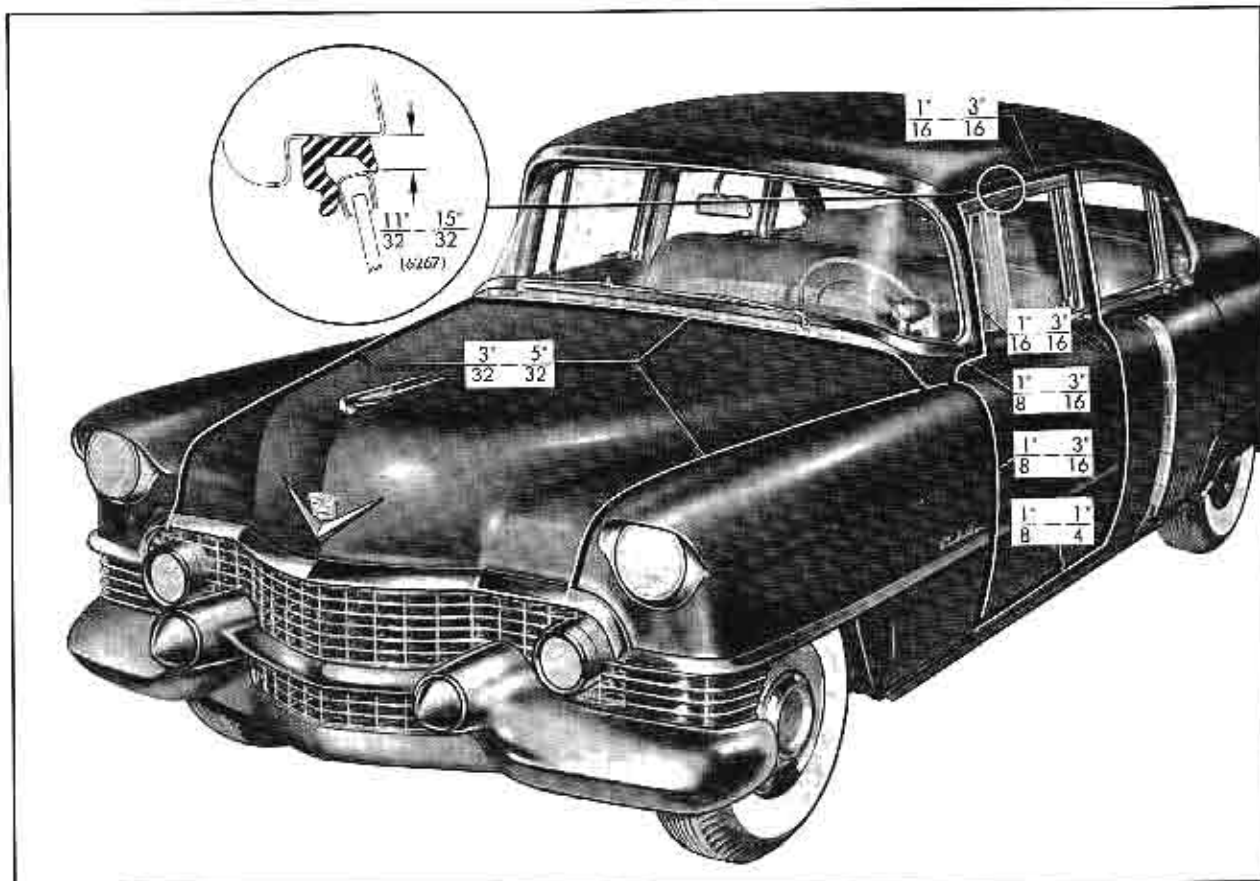

Fig. 3-18 Body Sheet Metal Clearances-Front
2. If door assembly has been removed from front body hinge pillar, reinstall door assembly with aid of helper and align hinge boxes within scribe marks on front body hinge pillar. Install and tighten hinge bolts; check door for proper alignment. See Fig. 3-18.
**(17) Rear Door Assembly
3. Check the spacing at the sides, bottom and top of door. See Fig. 3-18 for tolerances.
7. Shift door as required and tighten bolts. Recheck tolerances shown in Fig. 3-18.